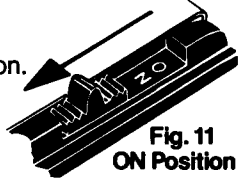

Fig. 11
6. Push chart drive switch to "ON" position (exposing the word "ON"). Make sure switch clicks into detent position which locks it into place. See fig. 11.
1. To select chart speed, energize recorder with proper line voltage and frequency. Raise recorder to vertical position (see loading and unloading chart paper on take-up models). Move chart drive switch to "ON" position exposing the word "ON". Make sure switch clicks into detent (see fig. 11). Set all three speeds to "OFF" position and tighten (see fig. 9). Move desired speed knob (1, 12 or 24) to "ON" position. Tighten while keeping pressure on gear mechanism.